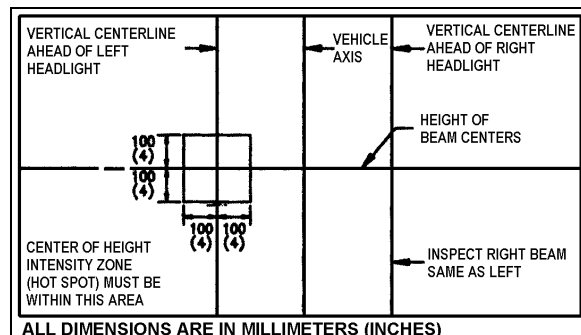

FIGURE 35: AIM INSPECTION LIMITS FOR UPPER-BEAM HEADLIGHTS 06505
7. The inspection limits for high-beam headlights shall be with the center of the high-intensity zone from 10 cm (4 in) up to 10 cm (4 in) down; and, from 10 cm (4 in) left to 10 cm (4 in) right on a screen at 7.6 m (25 ft) (Fig. 35).